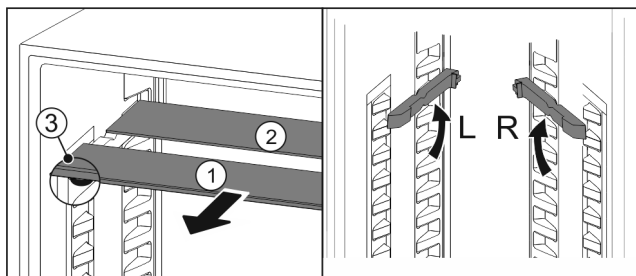

Fig. 145
- Pull the glass panels out Fig. 145 (1) from the front, one at a time.
- ▷ The glass panel Fig. 145 (1) and trim strip are at the front.
- ▷ The stops Fig. 145 (3) point down.